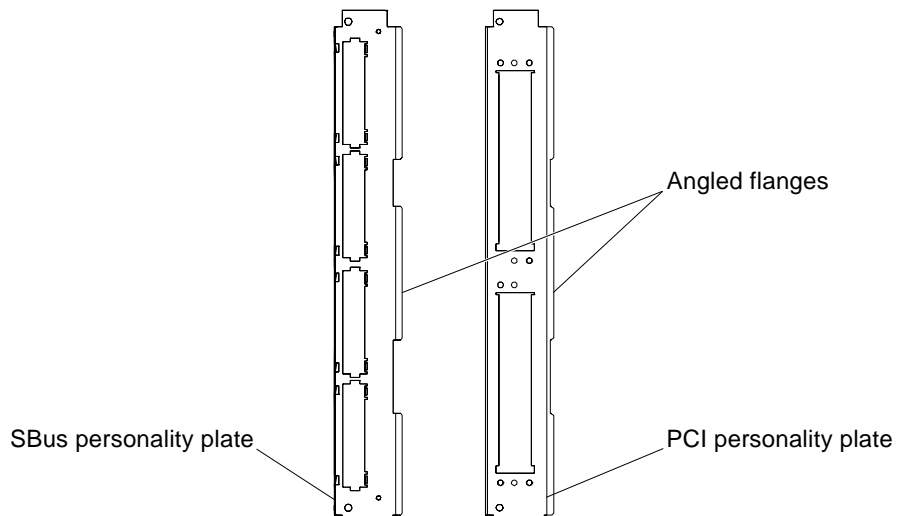

FIGURE 2-9 Personality Plates
b. Locate the angled flanges on the personality plate (FIGURE 2-9).